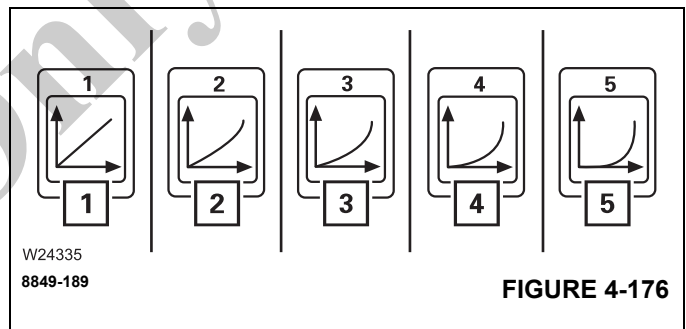

FIGURE 4-176
The higher the number of the characteristic curve (1) to (5), (Figure 4-176) the further the control lever must be moved to get a clear increase in speed.